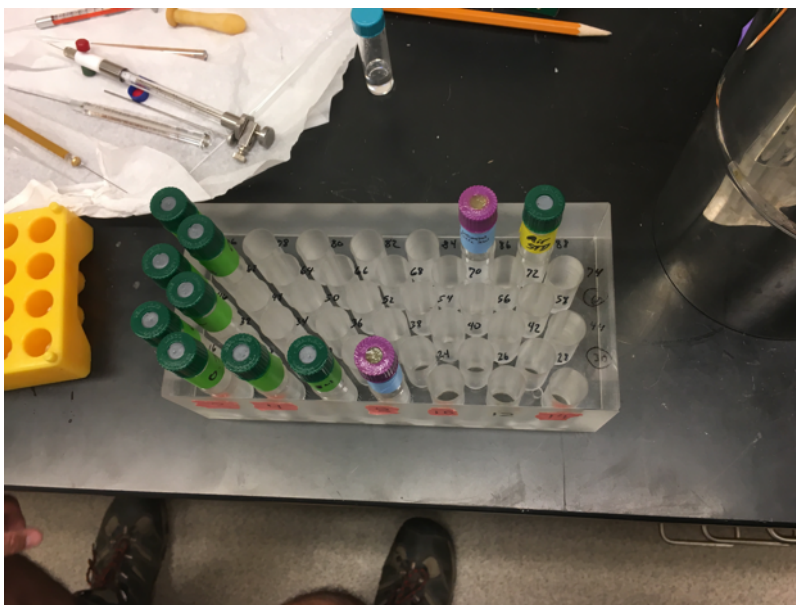

Figure 3: A bird's-eye view of the sample block loaded with air and water standards only. The remaining empty positions may be filled with samples.
*A typical run starts with three air standards, with the first discarded as a conditioner. The remaining standards are spread throughout the run, typically placed at the beginning of each row. Randomize the order with respect to amount of air (Figure 3).*